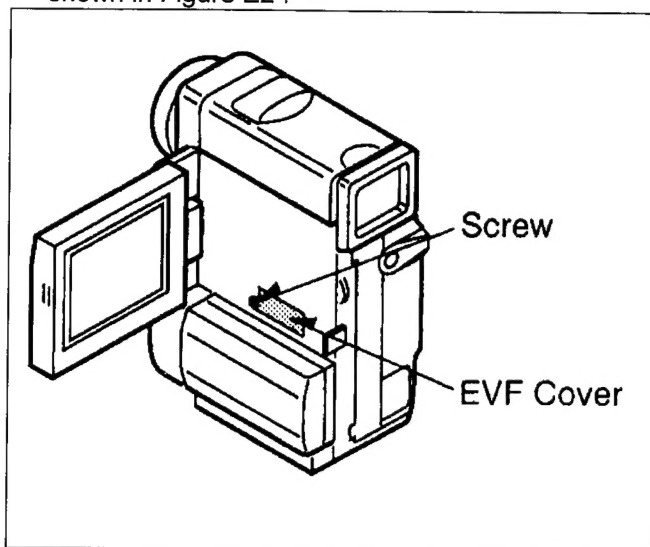

Fig. E2
1. Unscrew the screw and remove the EVR Cover as shown in Figure E2 .